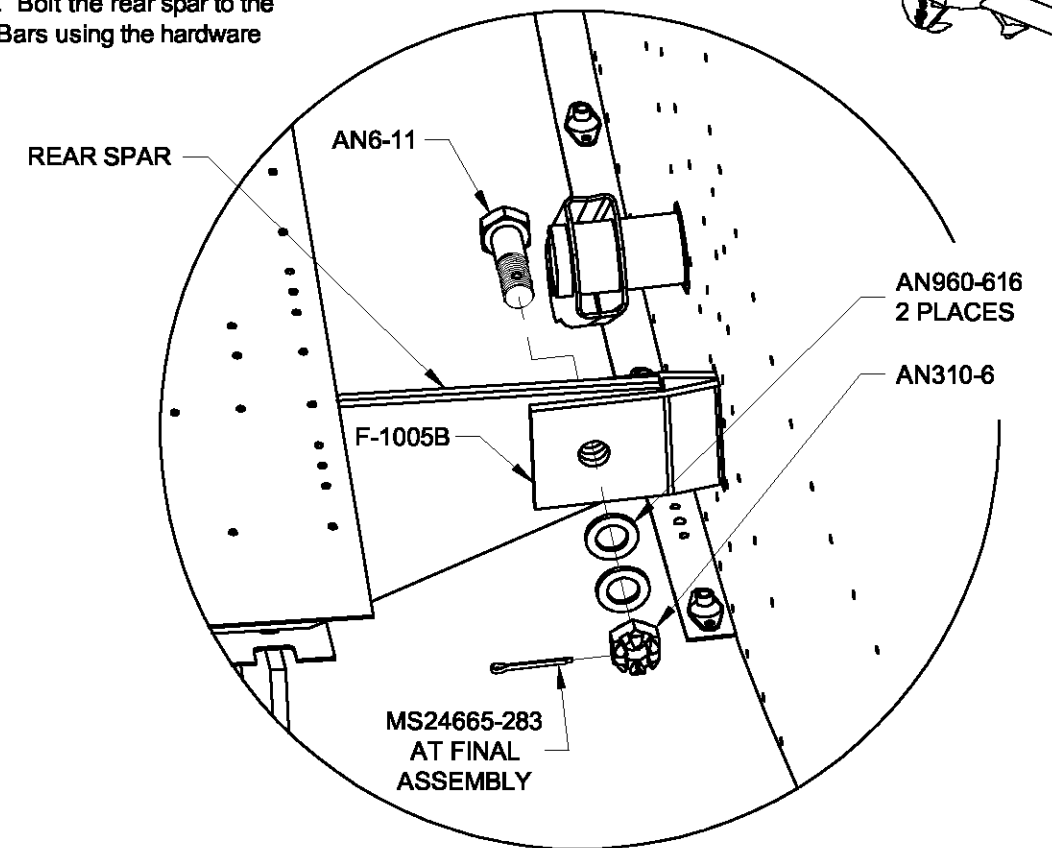

FIGURE 3: BOLT REAR SPAR ATTACH
Step 3: Remove the clamp. Bolt the rear spar to the F-1005B Rear Spar Attach Bars using the hardware shown in Figure 3.
Step 1: Reinstall the rear spar attach hardware. See Page 44-3, Figure 3. Don't forget the cotter pin.